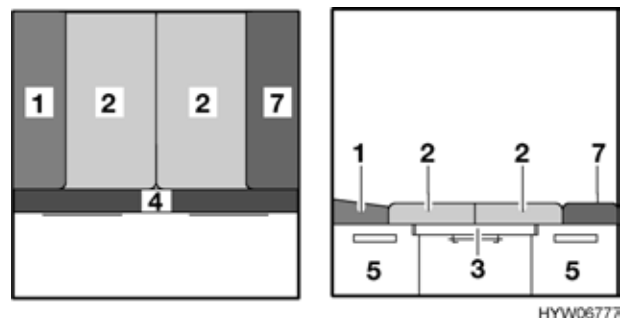

Fig. 77 After conversion
- Place the two seat cushions (Fig. 77,2) in the centre.
- Insert the left back cushion (Fig. 77,1) between the seat cushion and the wall.
- Insert the additional cushion (Fig. 77,7) between the seat cushion and the wall.
- Lay the additional cushion (Fig. 77,4) on the bedding box extension.